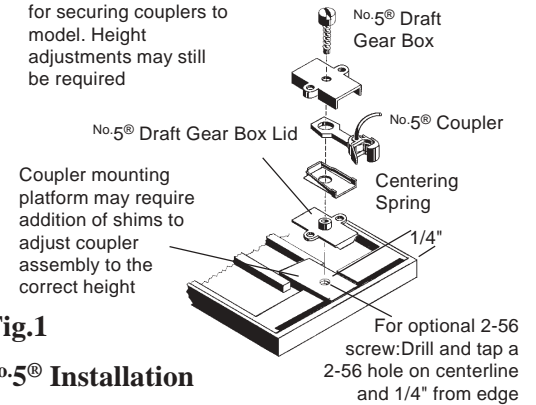

Fig.1
2. Use screws (metric) that come with model to secure No.5® coupler assembly. Usually there are two screws for each coupler assembly, one for each side mounting lug. If screws are missing or you wish to convert to a single 2-56 screw, drill and tap a 2-56 hole 1/4" from edge of model on centerline. Use a 2-56 screw of appropriate length to secure No.5® Coupler. See Fig.1.